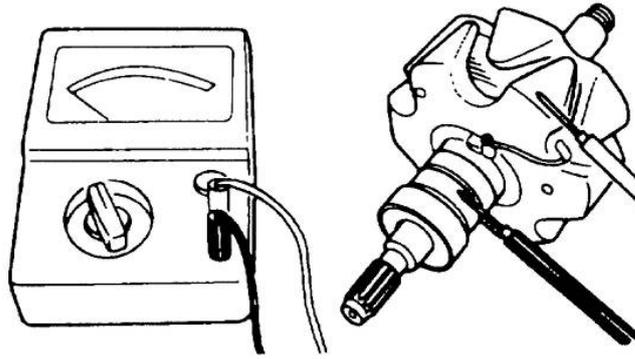

Figure 318 Earth Test of the Rotor and Slip Ring
- e. Check for continuity between the slip ring and rotor core (or shaft). If continuity exists, replace the rotor assembly (Figure 318).